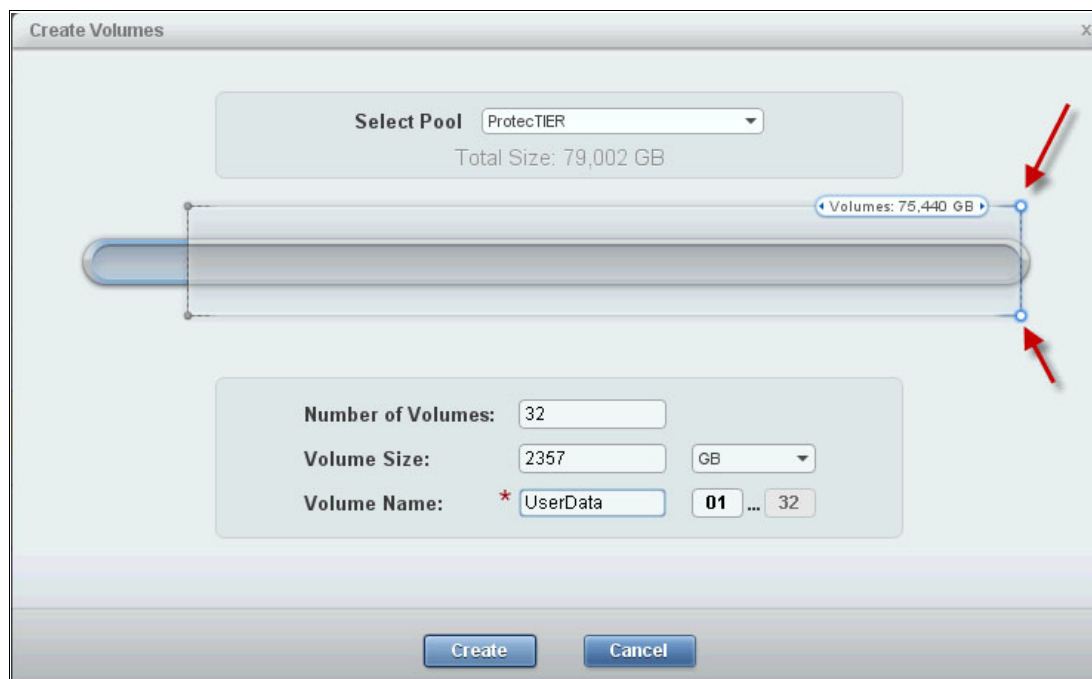

Figure 11-6 Creating user data volumes
- ▶ 32 x *<Remaining Pool Space available>*, which is 75440. Dividing 75440 by 32 means that user data LUNs on the XIV Storage System should be 2357 GB each (see Figure 11-6 on page 196).
Figure 11-6 shows the creation of volumes for user data. The arrows show dragging the slider to use all of the pool. This action automatically calculates the appropriate size for all volumes.